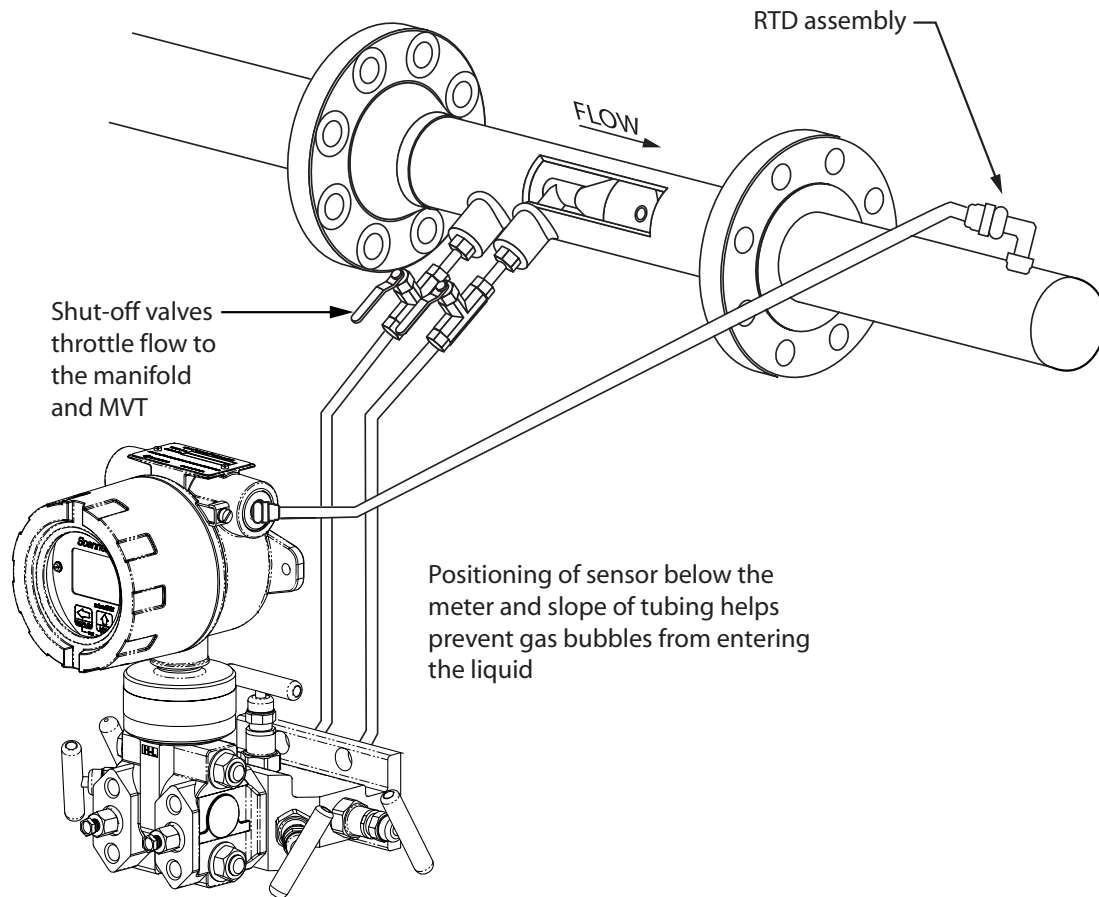

Figure 2.11—Remote-mount liquid run installation (shown here with a cone meter). The remote-mount method can be used with an orifice meter as well.
A Scanner 2000 can be mounted remotely and connected to an orifice meter or cone meter with tubing for liquid measurement (Figure 2.11, page 49). The setup of the meter run and plumbing configurations can vary widely, depending upon the challenges existing on location.
**CAUTION** When measuring liquid, process connections must be designed to eliminate air pockets. This is achieved by mounting the sensor below the metering device and sloping all tubing downward from the meter to the sensor. A side-port MVT and block manifold (shown in Figure 2.11, page 49) is recommended to help prevent air bubbles from being trapped in the sensor.